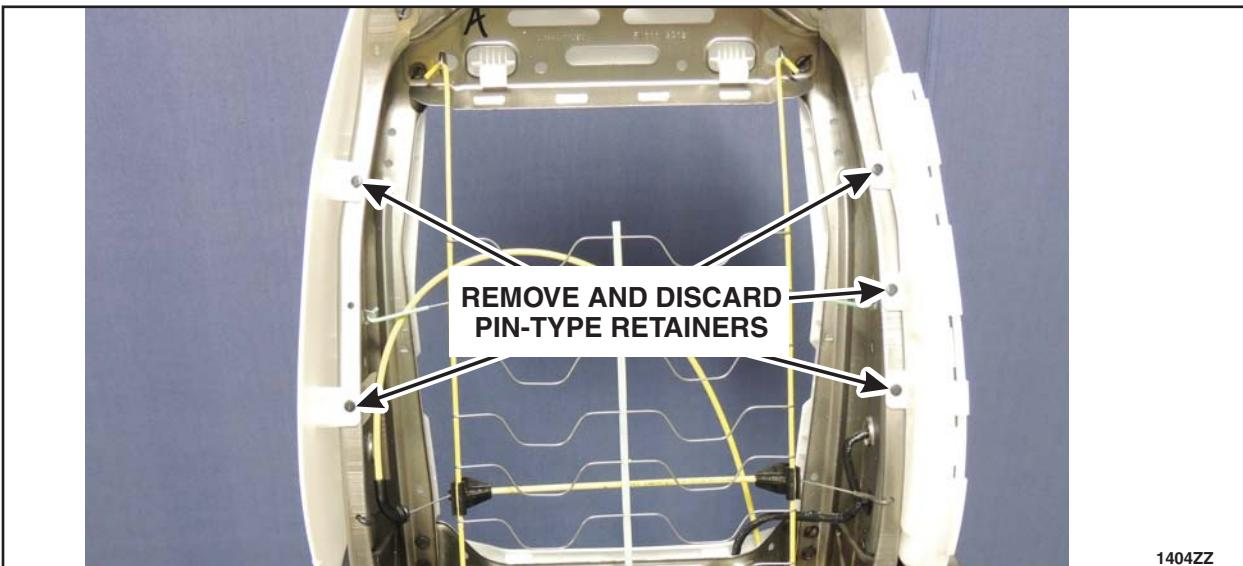

FIGURE 8
11. Remove the hard back panel pin-type retainers and the hard back panel. Discard the pin-type retainers. See figure 8.